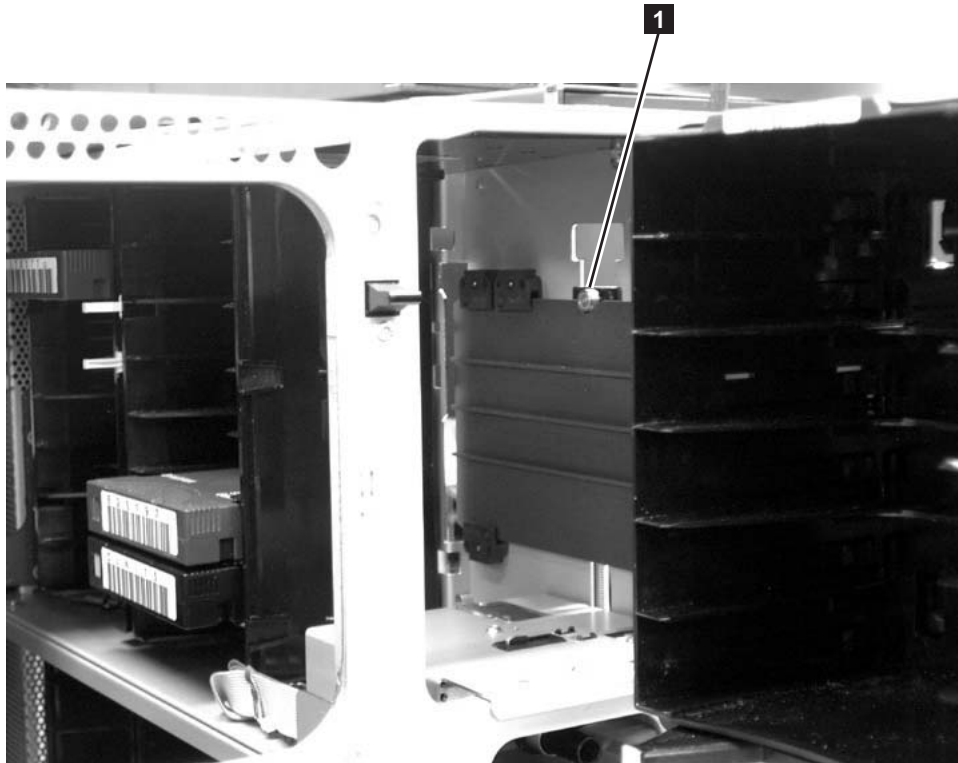

Figure 8-20. Silver roller locking the I/O Station slide in place
2. Reaching through the Access Door opening, push up on the roller (1 in Figure 8-20) located above the I/O Station slide and pull the I/O Station towards you until the slide is in front of the roller.
2. Reaching through the Access Door, push up on the silver roller (1 in Figure 8-20) while continuing to push the I/O Station into the library module.